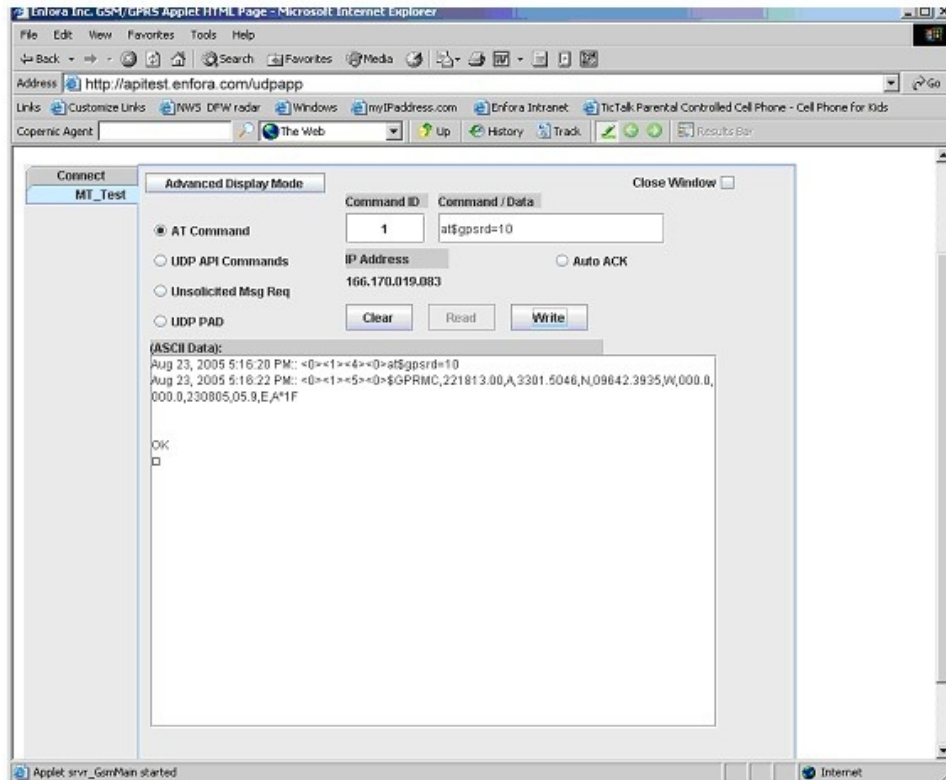

Figure: 45 - Wakeup Messages
3. Select the tab with the device name. (In this diagram it is labeled "MT_Test") Within approximately 60 seconds the wakeup messages should be seen in the window See Figure: 45 - "Wakeup Messages"